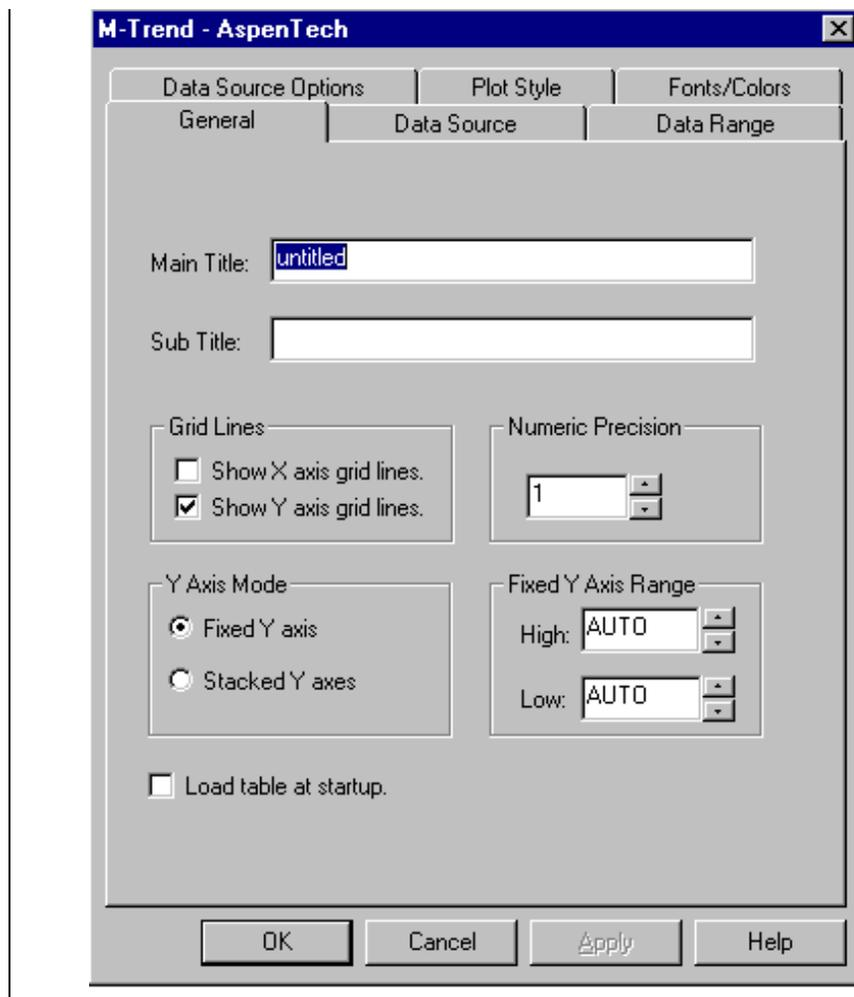

Figure 5-2: M-Trend Definition Dialog Box: General Tab
1. On the Edit menu, select Edit Trend or click the Edit View icon. The M-Trend Definition dialog box appears (Figure 5-2).